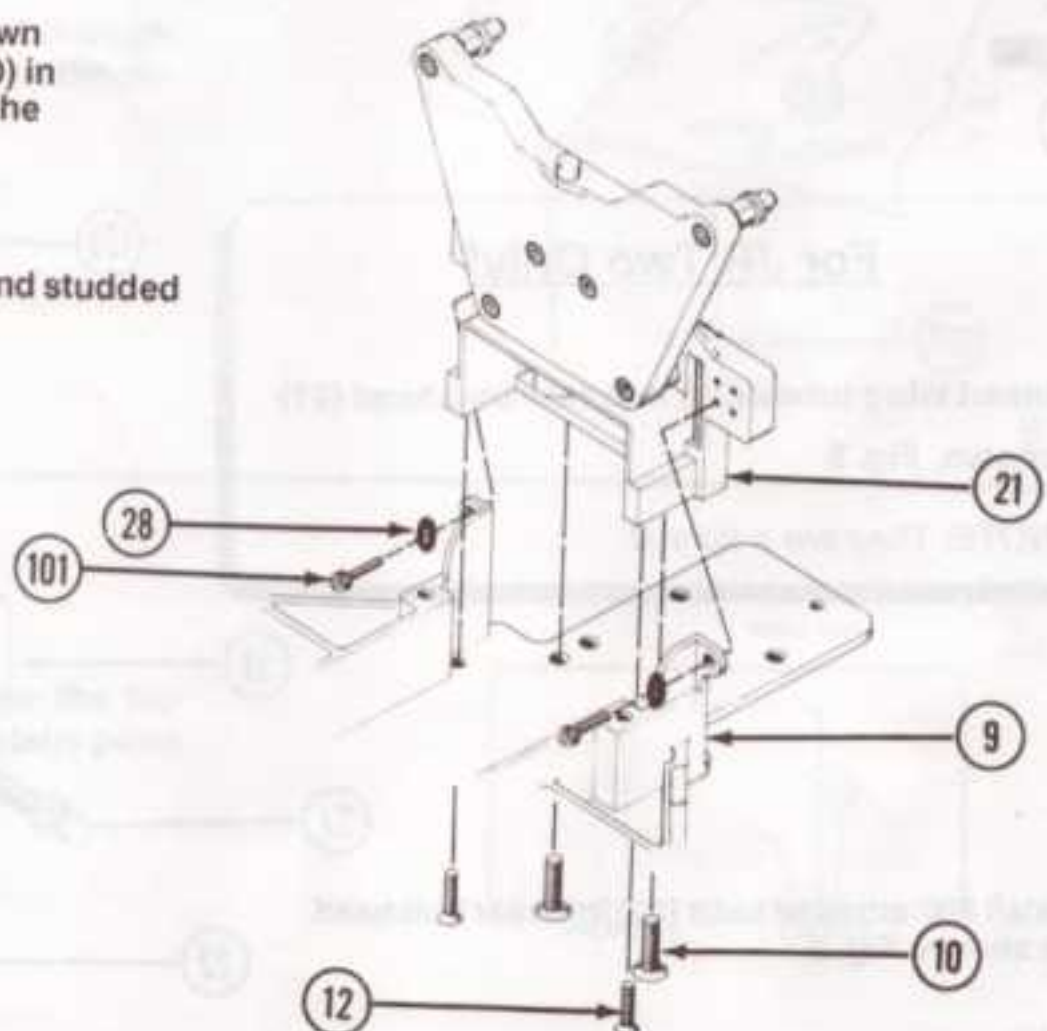

FIG. 10
16. Attach rear bulkhead (21) to chassis (9) as shown using two 8-32 x 1/2" flathead aluminum screws (10) in the rear and two 4-40 x 3/8" flathead screws (12) in the front. Fig. 10.
17. Secure top of chassis (9) to rear bulkhead (21) using two 4-40 x 3/8" socket head screws (101) and studed ball washers (28) Fig. 10.